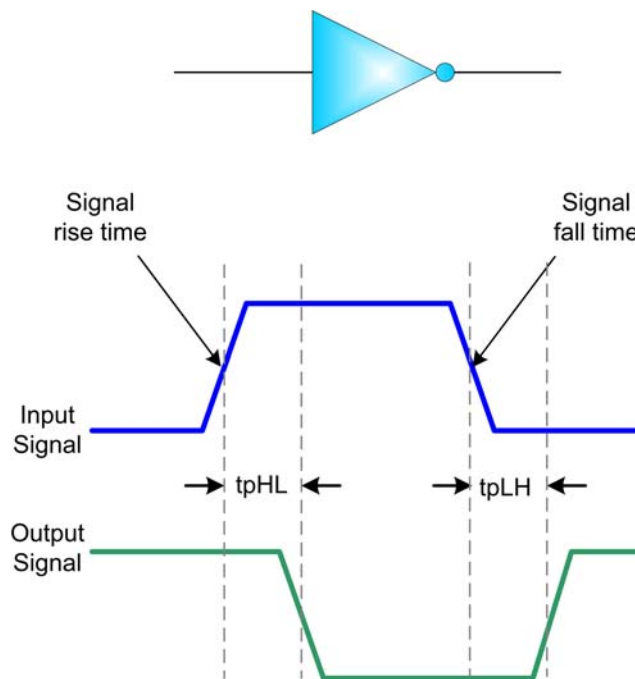

Figure 6: Propagation Delay
- In Figure 6, t_{PHL} , describes the time it takes for an input to cause the output to change from logic-level-high to logic-level-low.